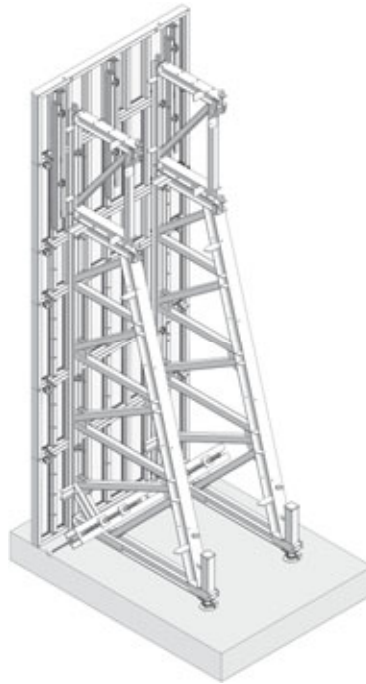

Fig. 5.2 Up to a formwork height of 6.50 m:
- 6.50 m – 1 height extension (Fig. 5.2)